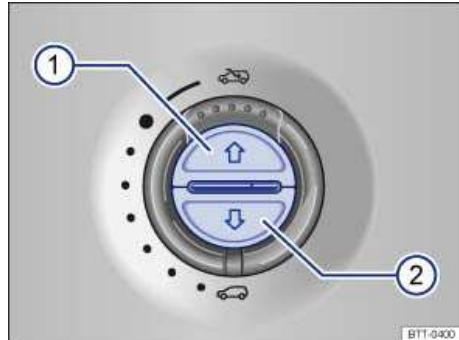

Fig. 36 In the headliner: Buttons for sunshade.
To open fully (one-touch feature):	Briefly press the ⇒ fig. 36 (1) button.
To stop the one-touch feature:	Briefly press the ⇒ fig. 36 (1) button or the (2) button.
To set an intermediate position:	Keep the ⇒ fig. 36 (1) button or (2) button pressed until the position has been reached.
To close fully (one-touch feature):	Briefly press the ⇒ fig. 36 (2) button.
- **Sunshade:** Within 5 seconds after the pinch protection was triggered, press the ⇒ fig. 36 \(2\) switch until the sunshade is fully closed.